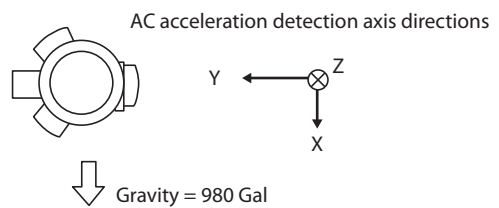

Figure 1A: X-axis FSG measurement ( $\alpha X_{-980}$ )
(1) Position this unit as shown in figure 1A.